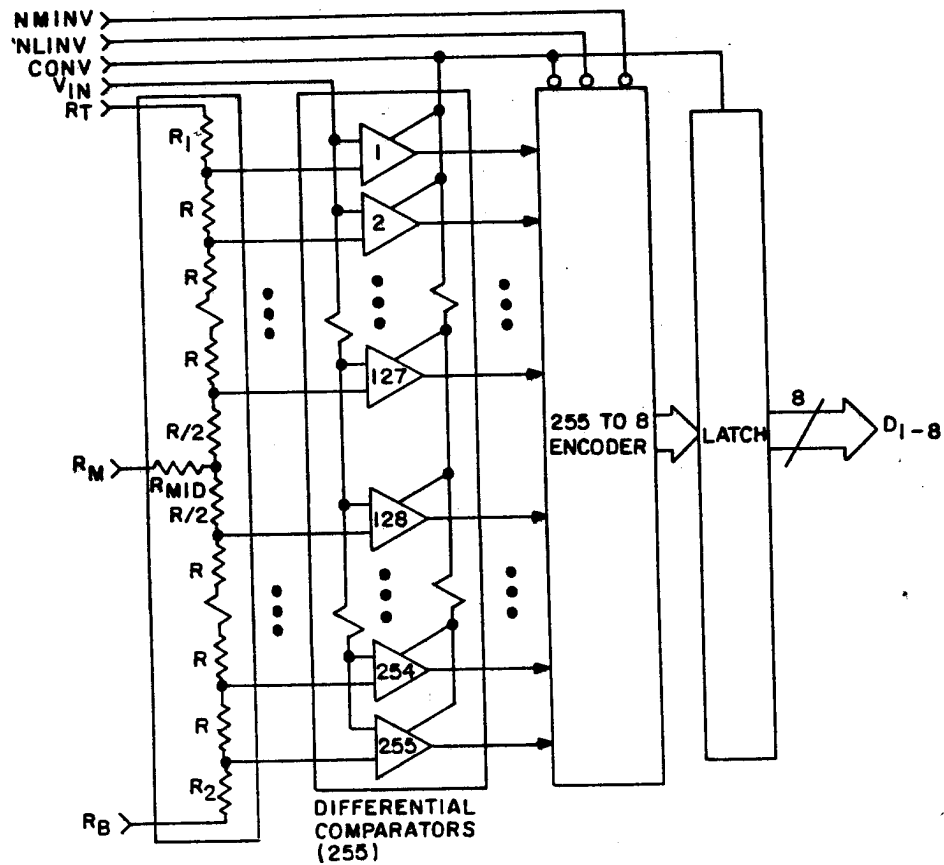

FIGURE 2. Block diagram.
3.2.2 Block diagram. The block diagram shall be as specified on figure 2.
2. Voltages are code midpoints when calibrated by adjusting  $V_{RT}$  and  $V_{RB}$  to set the 1st and 255th thresholds to the desired voltages. Note that  $R_1$  is greater than  $R$  (refer to block diagram on figure 2 herein), ensuring calibration with a positive voltage on  $RT$ . Assuming a 0 V to -2.0 V desired range, continuously strobe the converter with -0.0039 V (1/2 LSB from 0 V) on the analog input, and adjust  $V_{RT}$  for output toggling between codes 00 and 01. Then apply -1.996 V (1/2 LSB from -2.0 V) and adjust  $V_{RB}$  for toggling between codes 254 and 255.
The degree of required adjustment is indicated by the offset error,  $E_{OT}$  and  $E_{OB}$ . Offset errors are generated by the inherent parasitic resistance between the package pin and the actual resistor chain on the integrated circuit. These parasitic resistors are shown as  $R_1$  and  $R_2$  in the block diagram shown on figure 2. Calibration will cancel all offset voltages, eliminating offset and gain errors.